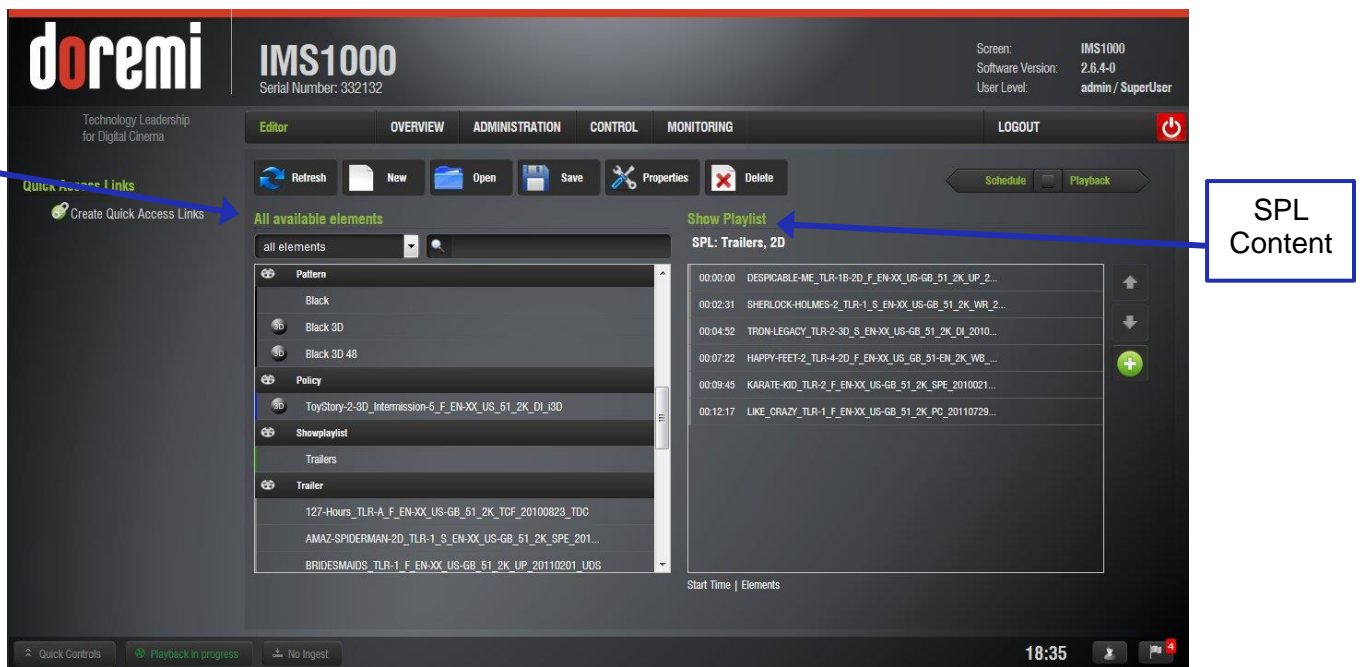

Figure 222: Editor Tab
- The Editor tab is composed of two different parts (Figure 222):